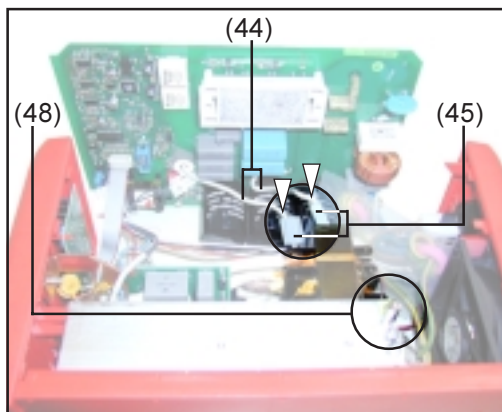

Fig. 10
- To position the LCA15 board (1), gently screw the M4 screw (43) into the M4x17 earthing stud (48) - see Fig. 10 - by hand.